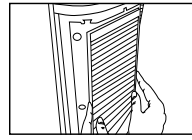

Fig. 9
5. Place the clean HEPA filters back in the main unit, making sure they are firmly seated inside the unit. Fig. 9